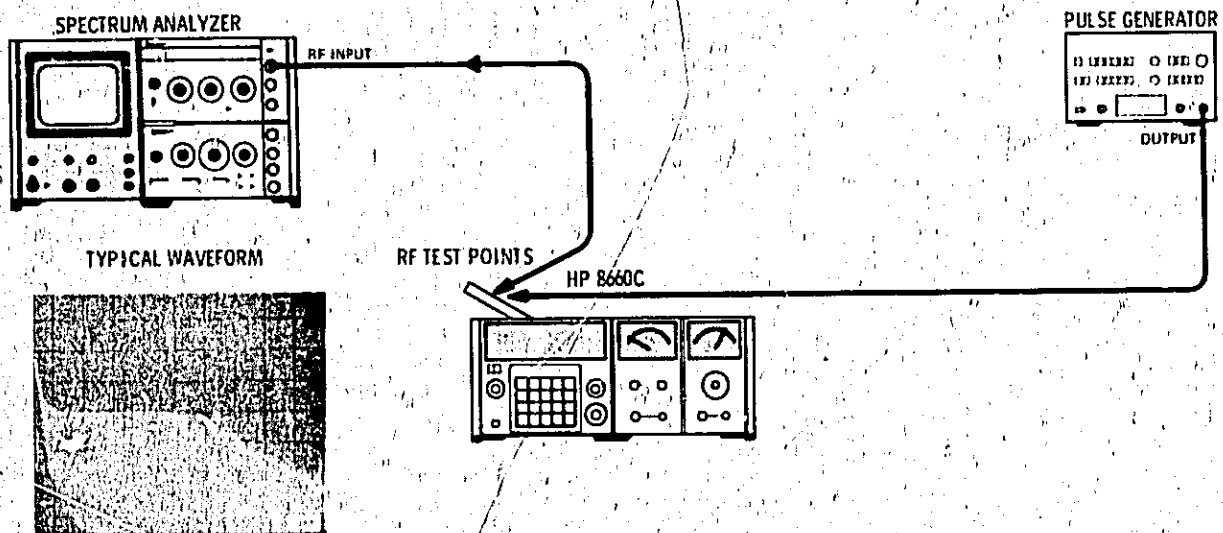

Figure 5-10. Phase Detector Response Adjustment Test Setup
1. Phase Detector Response Adjustments (see Figure 5-10).
- c. Adjust EFFiciency control A4A7R18 for a flat response to approximately 5 MHz with very slight peaking (1 dB \pm 1 dB). See the waveform in Figure 5-10 for typical response.